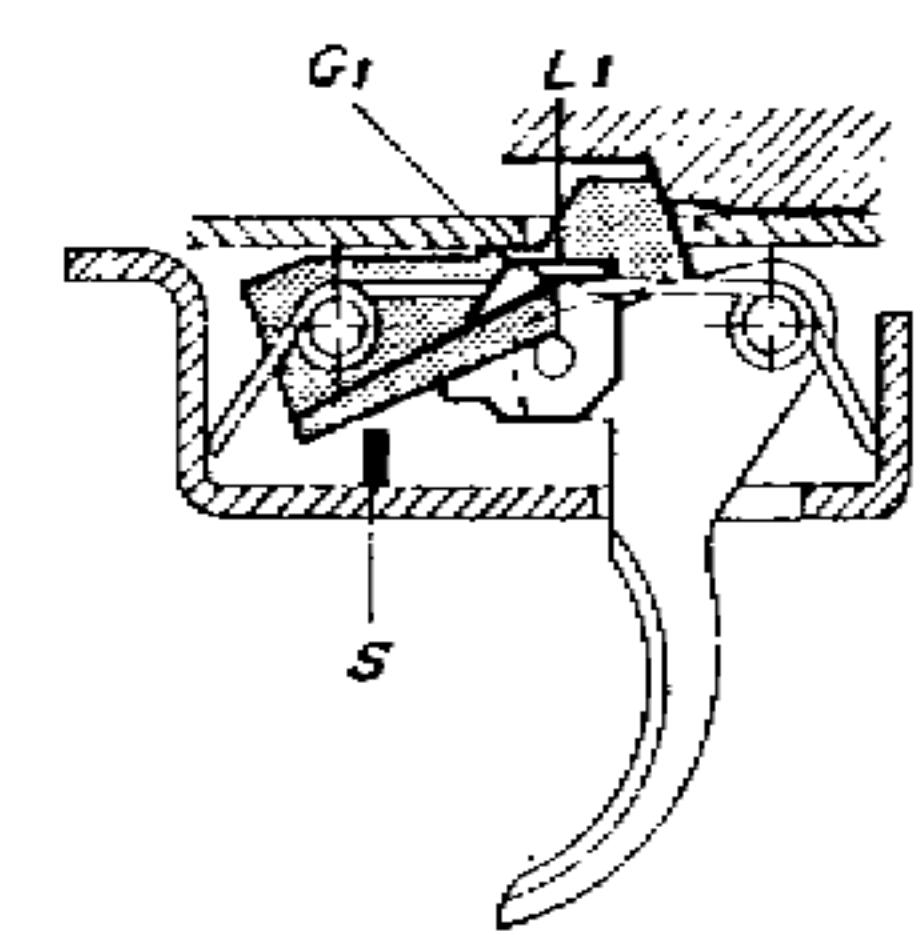

Fig. 16.
Continued pull on the trigger causes the intermediate lever to bring the sear to its depressed position (fig. 16) ; the breech-block is thus freed from the sear.
As the fore arm of the change lever (S) is out of action, the intermediate lever cannot pivot to the rear and the sear remains in its depressed position and is held there by the ramps of the intermediate lever resting on the shoulders (G 1) of the sear ; the breech block continues its firing cycle so long as pressure is kept on the trigger (fig. 16).